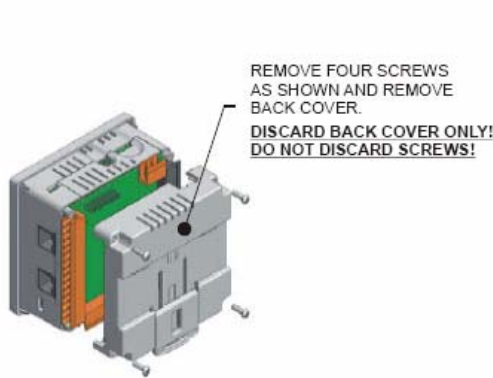

Figure 1 - Removing Back Cover of the XLe
2. Remove the four screws on the back of the XLe unit and remove the back cover. The back cover will be replaced with the extended back cover that ships with the communication add-on. Screws are re-used (Figure 1).